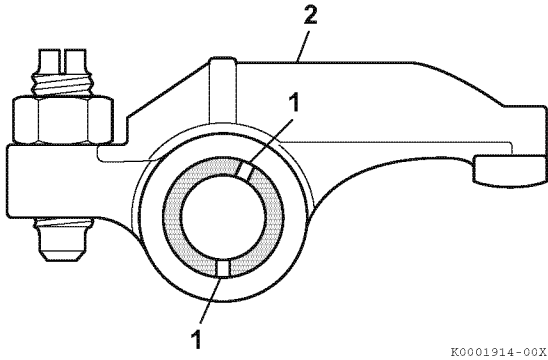

Figure 6-31
- Ensure the lubrication holes in the rocker arm shaft (Figure 6-31, (1)) are oriented correctly with respect to the rocker arms (Figure 6-31, (2)).